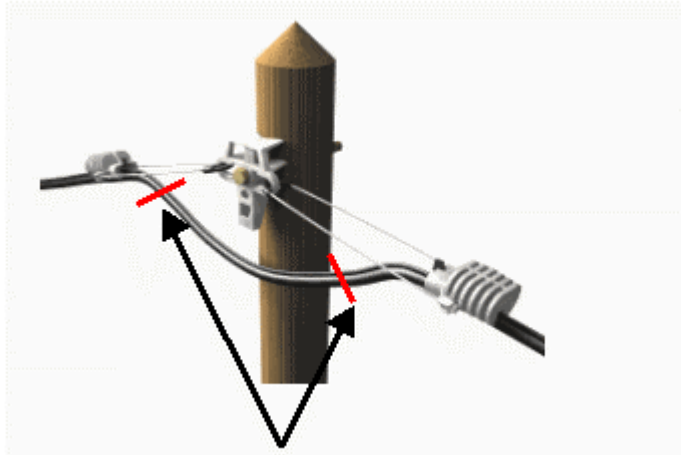

Figure 11 Telenco AC7 / AC10 in Power Crossing situation
- The AC7 or 10 should be fitted as shown in Figure 11 (below)
- To provide the necessary insulation, a 300mm (12") section of the catenary wire/steel should be removed from the cable (as Fig 11 below).
An Insulator Stay No 2 should be fitted into a Suspension Wire as shown in Figure 11 (below).